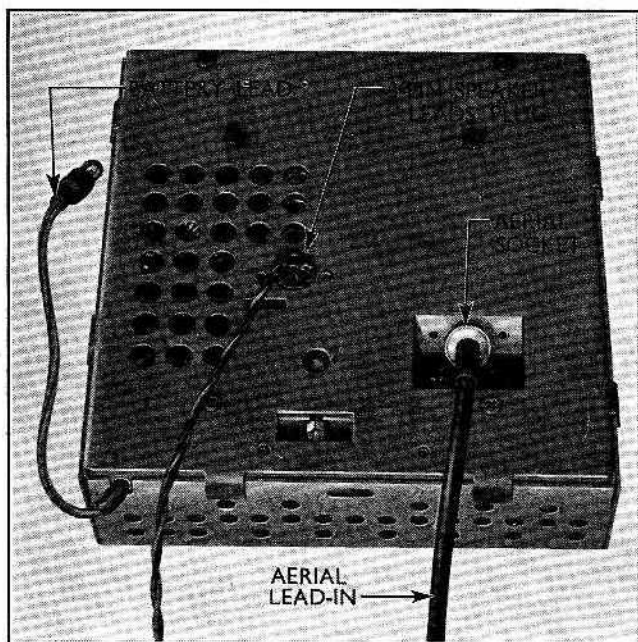

Fig. 607
- 8 Insert the aerial lead-in plug in the socket provided in the recess at the base of the receiver, see Fig. 607, and also connect the loudspeaker leads, fitting the three-pin plug in the socket in the receiver base. This plug will only fit in one position, do not attempt to force engagement.
- 2 Remove the aerial lead-in plug from the socket in the underside of the receiver, see Fig. 607, and touch one test prod on the plug centre contact and the other prod on the outer diameter and rim of the plug. Any reading shown on the voltmeter would indicate a short circuit between the aerial lead-in and earth. Check the aerial and lead-in independently, after disconnecting the lead-in from the aerial mast.
- 1 Disconnect the aerial lead from the receiver, see Fig. 607.
- 4 Route the aerial lead from the aerial base beneath the glove box and inside the channel formed in the lower edge of the fascia panel to the receiver aperture at the centre. Insert the aerial plug in the socket in the base of the receiver, see Fig. 607.
- 6 Remove the loudspeaker leads plug and the aerial lead-in plug, by gently pulling from their respective sockets in the receiver base, see Fig. 607.